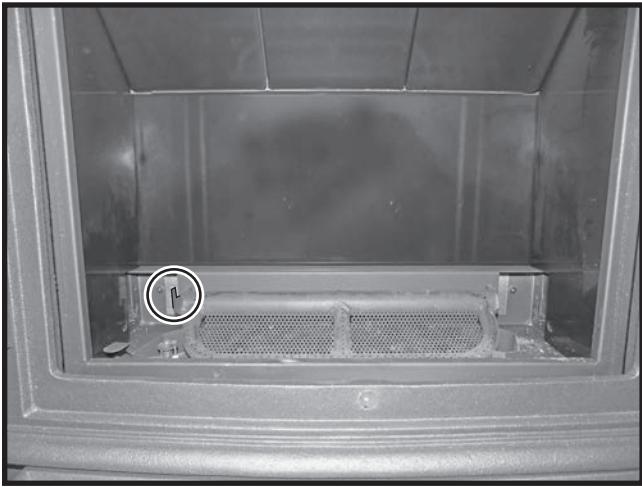

Fig. 40. Burner with basket for embers. Tab located on left side of burner for #3 log placement.
1. Fill burner basket (Fig. 40) with embers so that the baskets are filled and overflowing the burners' front row (Fig. 41). Reserve a small amount of embers for final placement.
4. Position 3rd log as shown in Fig. 44 making sure that the log does not cover the holes of the back row of the burner. 3rd log has a hole in its underside which will fit onto a protruding tab on the burner (Fig: 40)